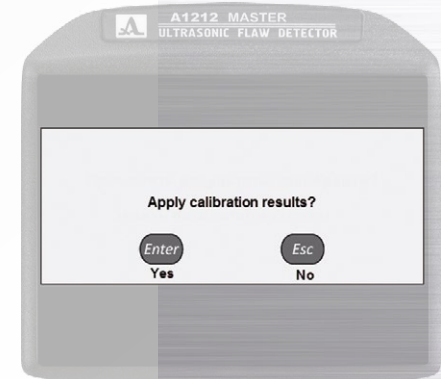

Figure 22
- to save the settings, press the **Enter** key. A confirmation window will be opened (Figure 22).